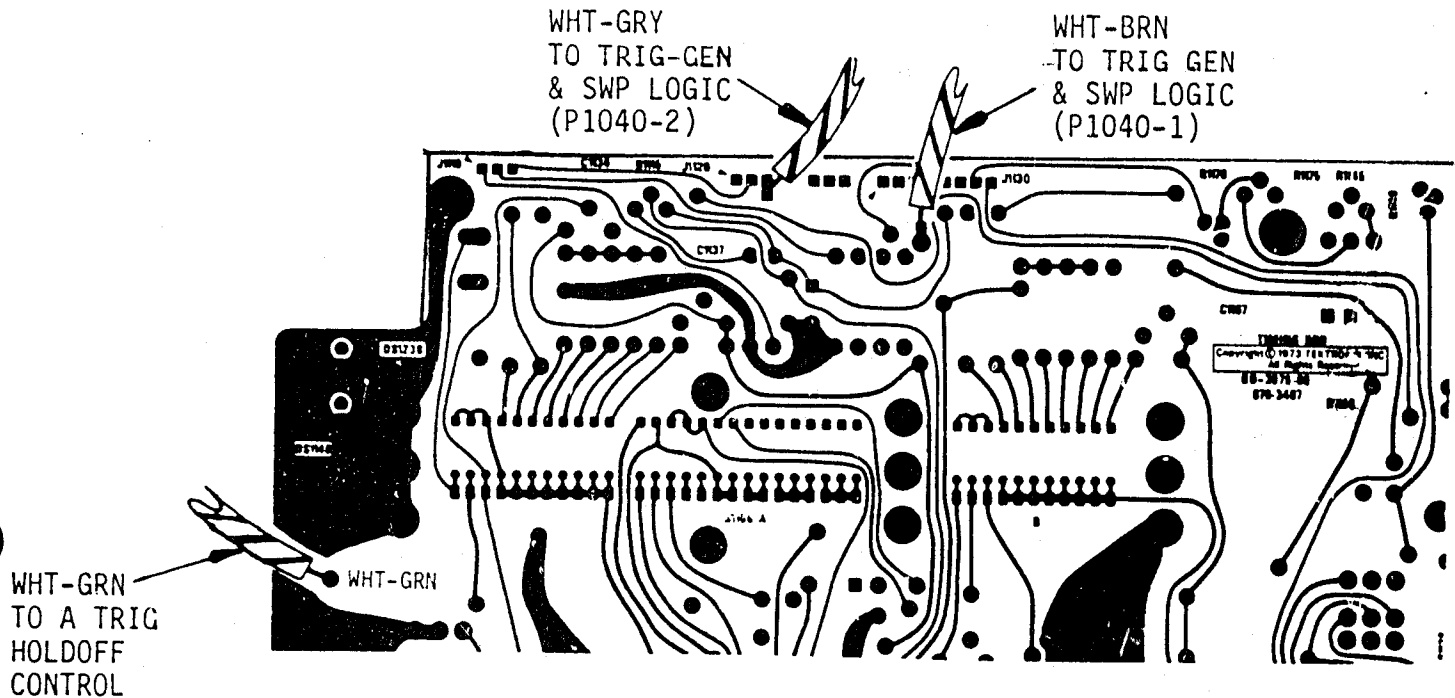

Fig. 3. Partial - Timing Circuit Board
3. Make the following connections (refer to Fig. 3 for locations):